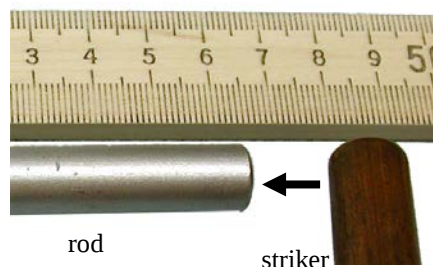

Figure 12-8.
- Using a short metal rod as a striker, tap the end of the rod to excite a compressional (P) wave, as shown in Figure 12-8. You will try to achieve a waveform with good triggering, as shown in Figure 12-10.